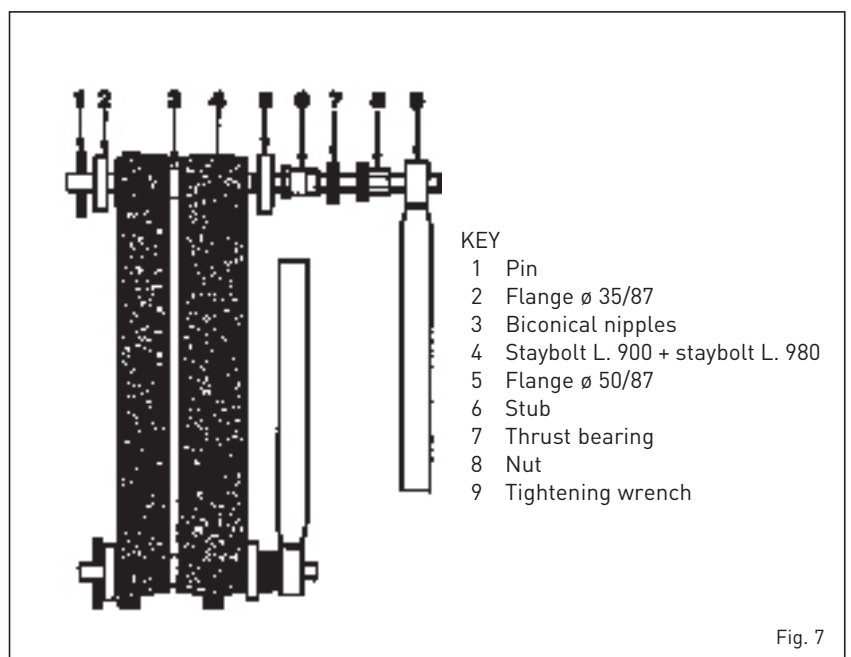

Fig. 7
- assemble the sections, using the tools provided consisting of a pair of staybolts for assembly with the corresponding accessories (code 6050900 - fig. 7), exerting pressure simultaneously on the top hub and on the bottom hub. If, during this operation, the sections were to slot together in such a way as not to be even and parallel, slide a chisel in the tighter side and, by applying a little force, bring the two pieces together so that they are parallel. The sections can be considered properly joined together when their outer edges come into contact;